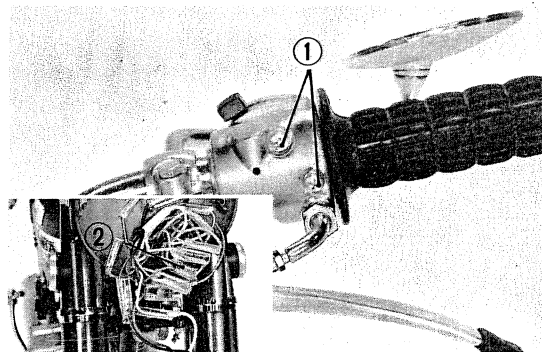

Fig. 121 Emergency switch removal
Remove the combination headlight control and emergency switch by unscrewing two mounting screws. (Fig. 121).
① Mounting screws ② Wire harness
- 5) Remove the headlight and disconnect the wire harness in the headlight case. (Fig. 121)